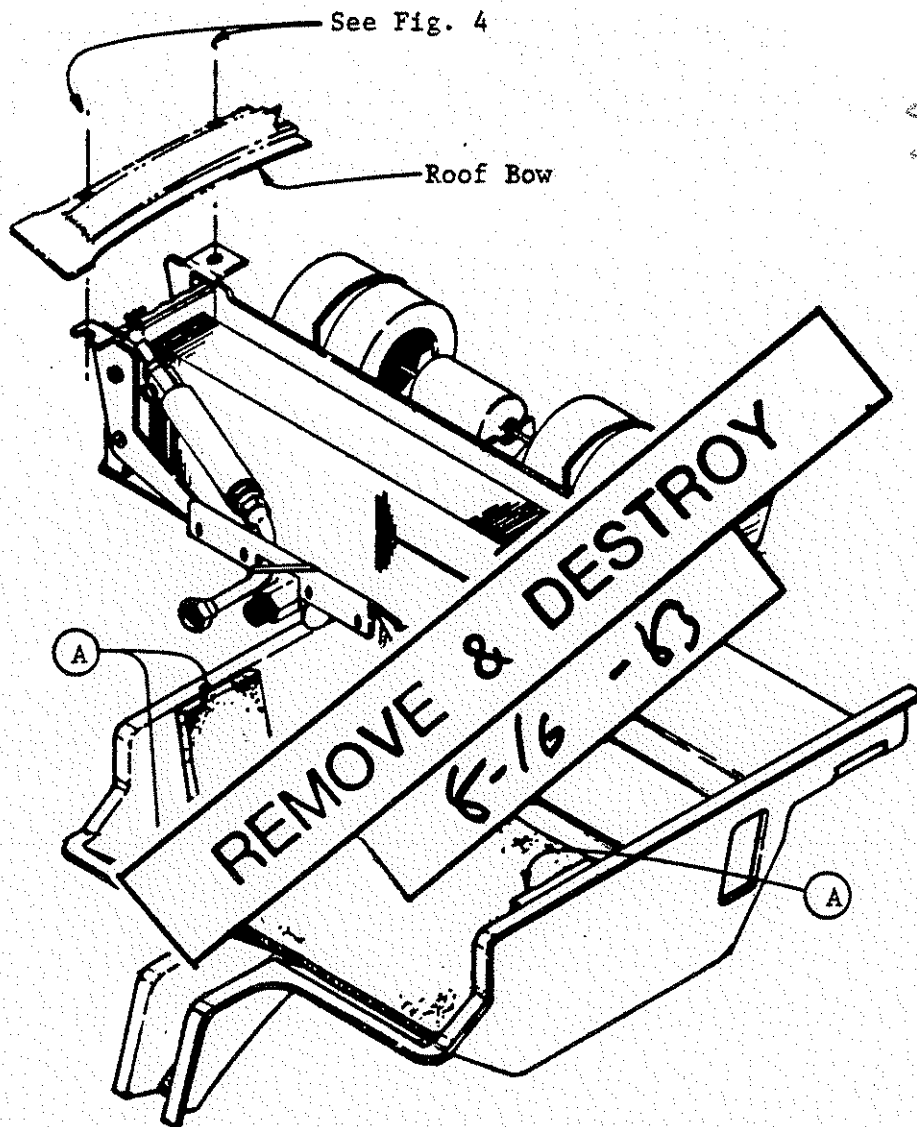

Fig. 5
- h. Be sure that the foam seals and surge baffle (A in Fig. 5) are securely glued in place. (Ref. A22-14607)